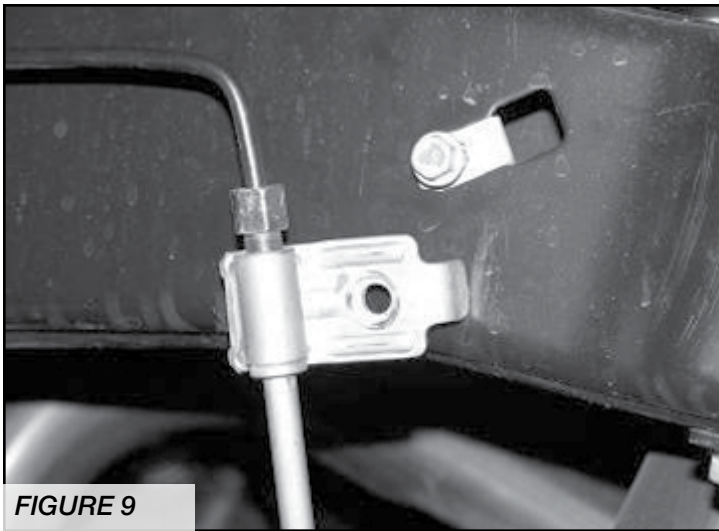

FIGURE 9
17. Remove the brake line bracket from the frame and save the hardware. Remove the plastic clip that holds the ABS lines to the frame and at the rear upper link arm pockets. Do not damage the clips, they will be reused. Remove the top differential cover bolt and remove the wheel speed sensor line clamp. Save the bolt. Remove the two nuts holding the E-Brake cable to the body of the Jeep and save. SEE FIGURE 9